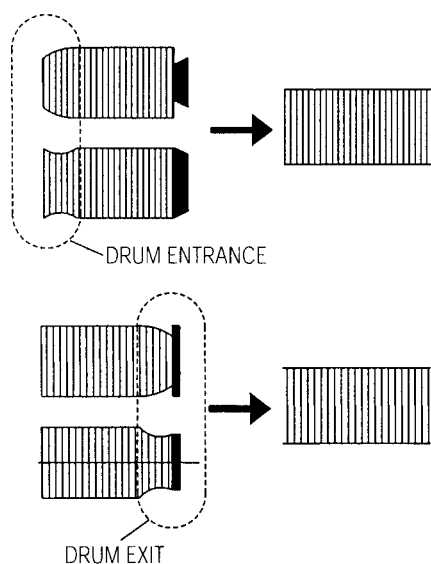

Fig. 5-8 FINE TUNING OF THE ENVELOPE AT THE DRUM ENTRANCE/EXIT (I)
H. DRUM ENTRANCE /EXIT (See Fig. 5-8, 5-9)